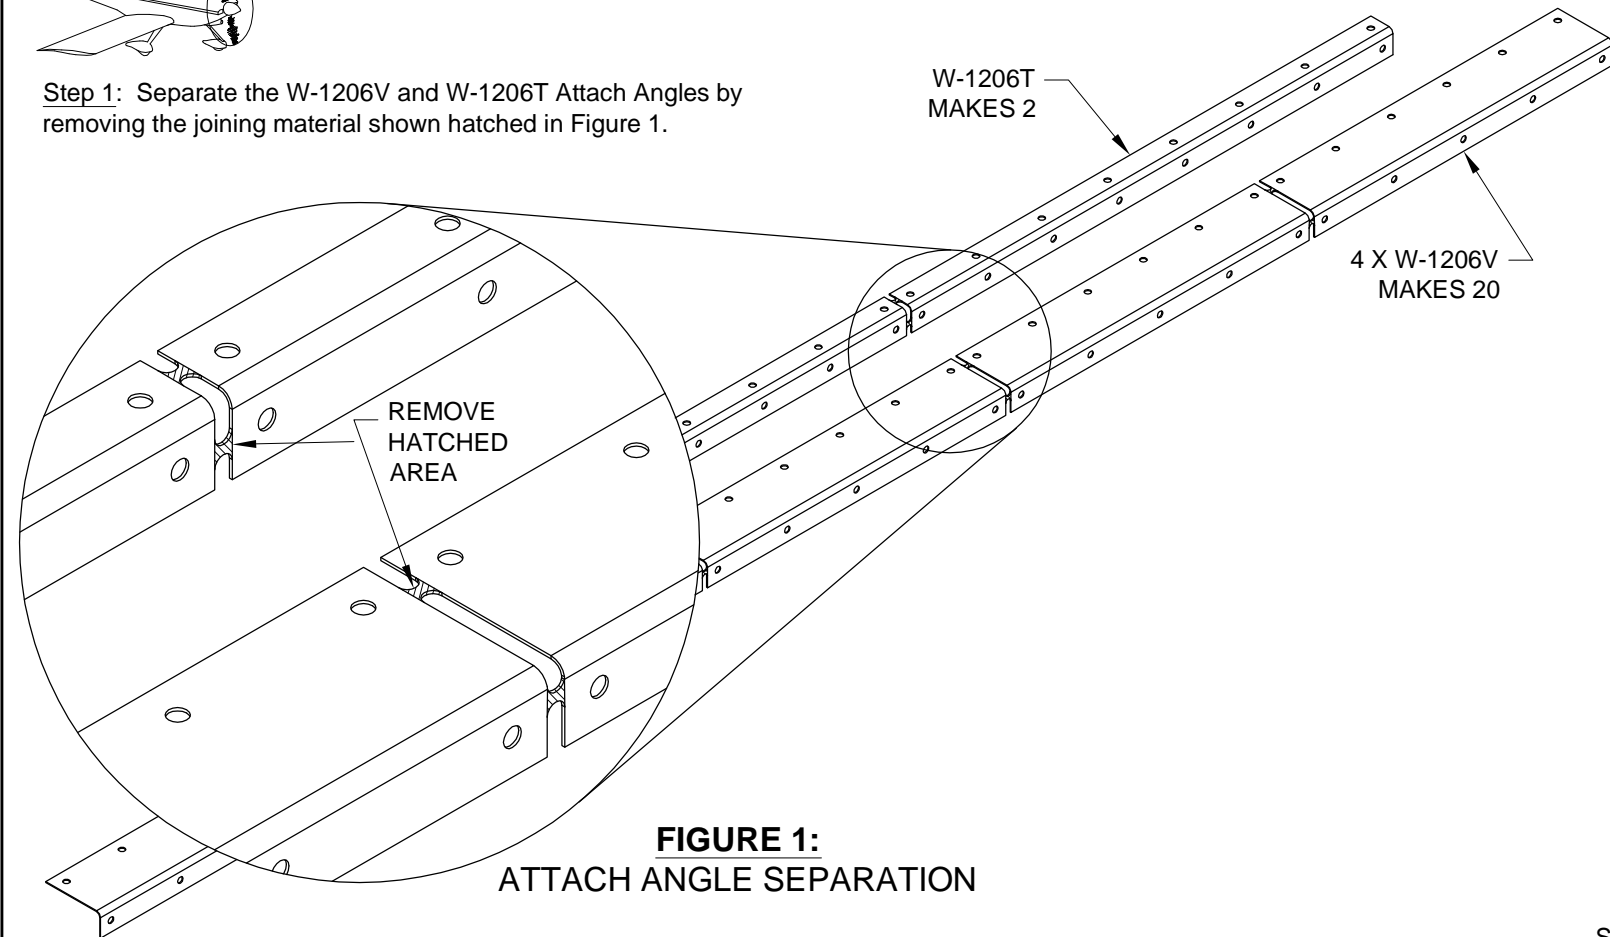

FIGURE 1:
Step 1: Separate the W-1206V and W-1206T Attach Angles by removing the joining material shown hatched in Figure 1.